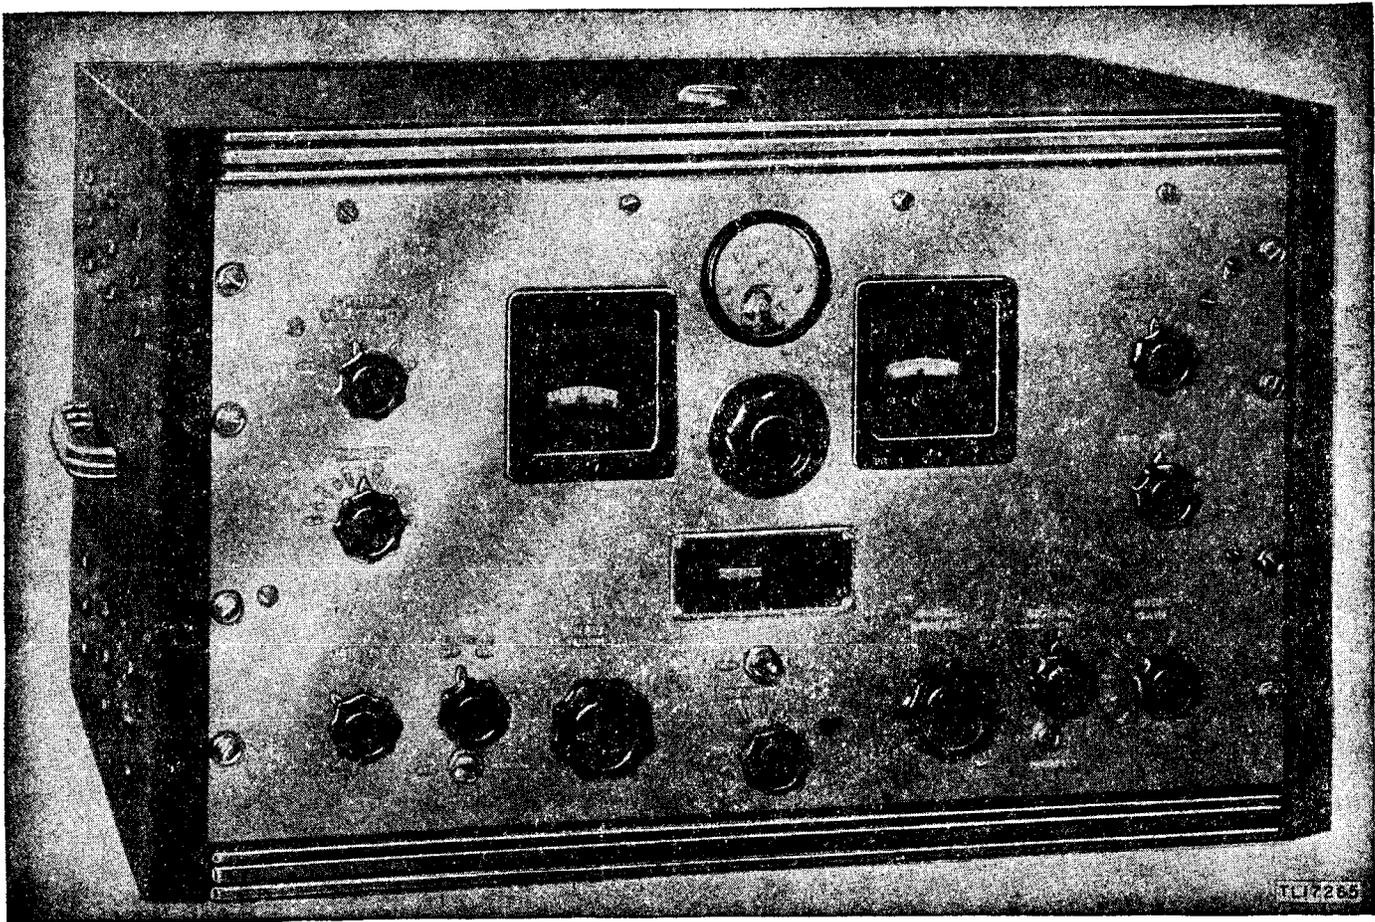
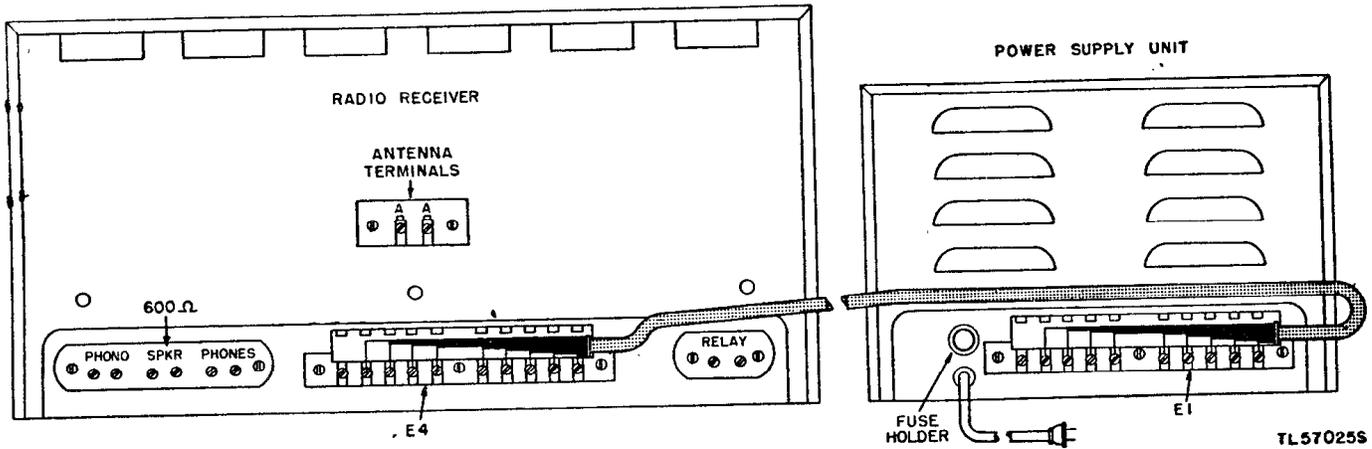
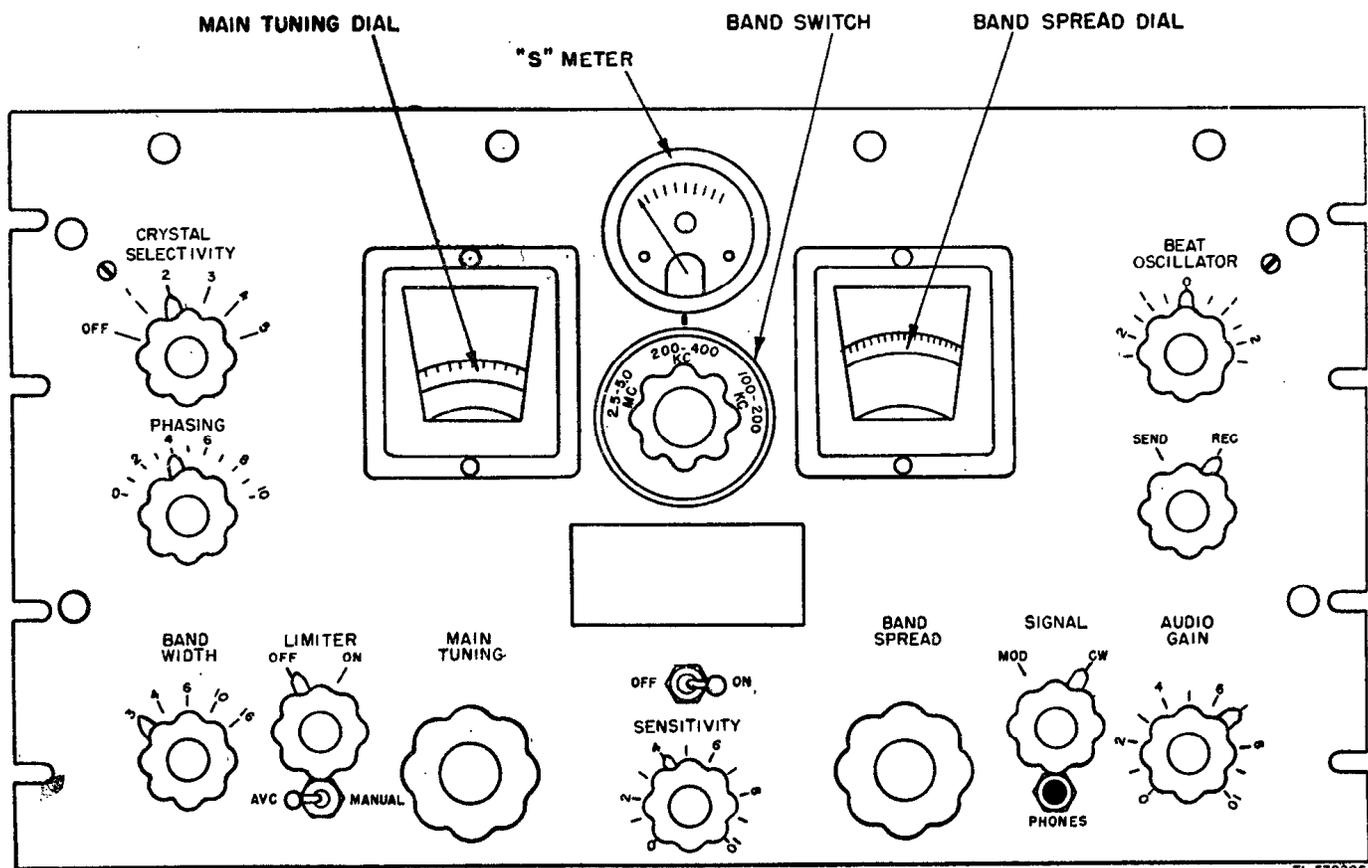

Figure 6. Radio Receiver BC-779-B in Cabinet CH-104-A.
Figure 10. Cable connections for a-c operation.
Figure 15. Radio Receiver BC-779-B, front panel.
in Cabinet CH-104-A (fig. 6). The under side of the receiver chassis is equipped with a steel cover plate which has heavy, felt-covered feet in the corners. The rear of the chassis (fig. 10) is provided with a terminal strip which is used in making connection either to the power supply unit or to batteries. The S meter located at the top center of the receiver panel is not supplied with Radio Receiver BC-1004-D.
- (1) Remove the sheet metal covers from the terminal strip E4 on the rear of the receiver and from the terminal strip E1 on the power supply unit.
- (2) Make sure that all 10 screws on each strip are unscrewed at least three turns.
- (3) Attach one end of the connector cable to each terminal *exactly* as shown in figure 10 and
d. EARPHONES. Insert the plug of Headset HS-30 (or any other available headphone) into the PHONES jack (fig. 15), or connect it to the screw terminals marked PHONES on the rear of the chassis (fig. 10). No matching transformer is necessary.
15. Receiver Controls (fig. 15)
o. SEND-RECEIVE SWITCH. This switch is provided for use when the receiver is used with an associated transmitter. The receiver is silenced when the switch is in the SEND position. This position allows the receiver to remain ready for instant use. The RELAY terminals at the rear of the receiver (fig. 10) are for convenience in connecting a relay to disconnect automatically the receiver in preference to operating the SEND-REC switch.
q. SPKR TERMINALS. These terminals on the rear of the receiver (fig. 10) are provided so that a permanent magnet type loudspeaker may be connected to the output of the receiver.